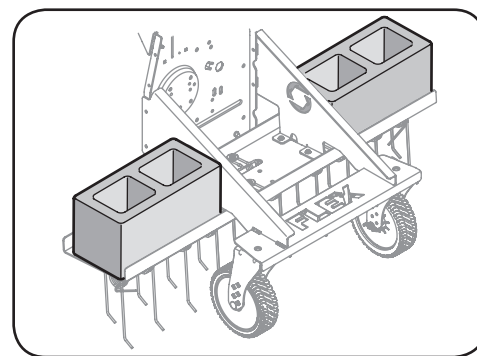

Figure 5-3
- Cinder blocks are recommended. See Figure 5-3.